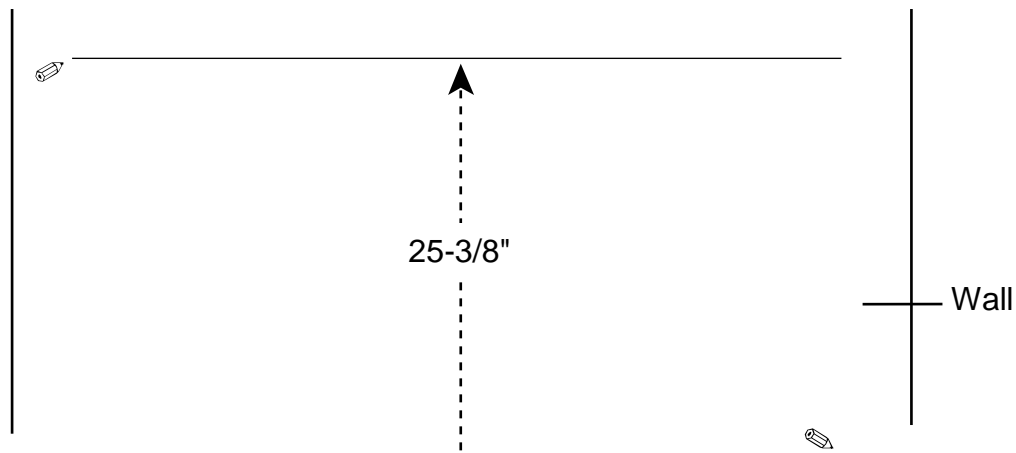

Fig. 1
1. Determine where you want the bottom of your mirror to end and draw a faint pencil line on the wall. Use a tape measure and measure up $25\text{-}3/8"$ from that line. Draw another faint line. The top line is where you attach the Mirror Wall Bracket (I). If you like, you can erase the faint bottom pencil mark. See Figure 1.